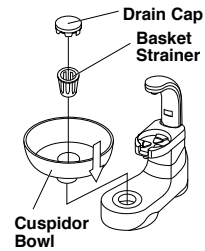

Fig.6-29 Cuspidor Bowl
(4) Cuspidor Bowl, Drain Cap and Basket Strainer **(Fig.6-29)**